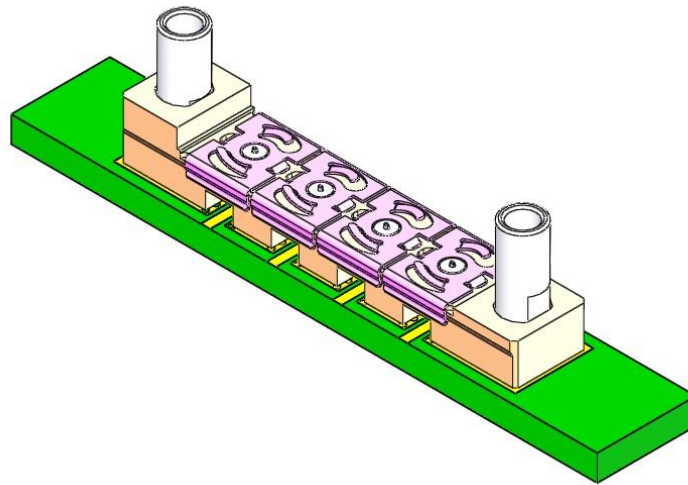

Figure 3: Connector, 4 position, top view
4.5. Verify connector is flat on the board (Figure 3).